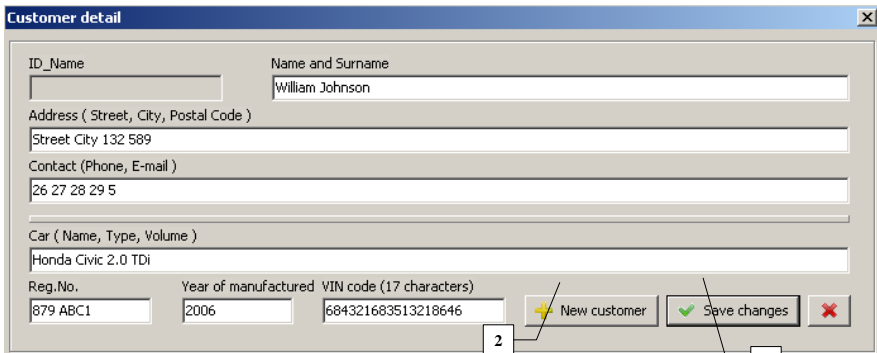

Figure 6.7
You can change customer details by double clicking on a customer record. A new window with detailed informations appears (*Figure 6.7*). In this Customer details window you can change all the informations about the customer. The changes are applied by clicking the Save changes button. To create a new customer record, click on the New customer icon (2). A blank Customer details window appears. After you fill in the informations you want, click on the Save changes icon (1). A new entry appears in the customers list.